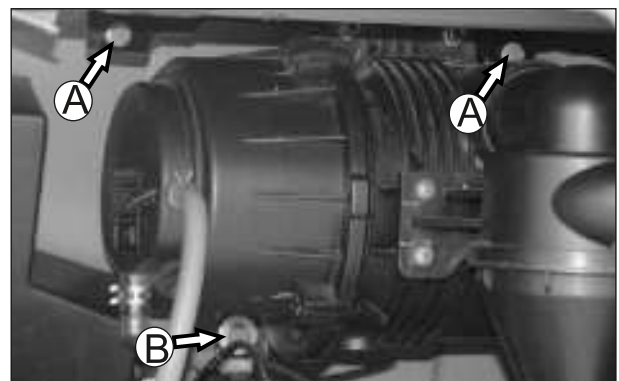

Fig. 5.96
- Loosen and remove hexagonal screw (M6x16 - 2 nos.) along with wave spring washer (2 nos.) and Punched washer (2 nos.) (A) from air cleaner assembly top mounting. (Fig. 5.96)
- Loosen and remove hexagonal screw (M6x16 - 1 no.) along with a wave spring washer (1 no.) and a punched washer (1 no.) (B). from air cleaner assembly bottom mounting. (Fig. 5.96)